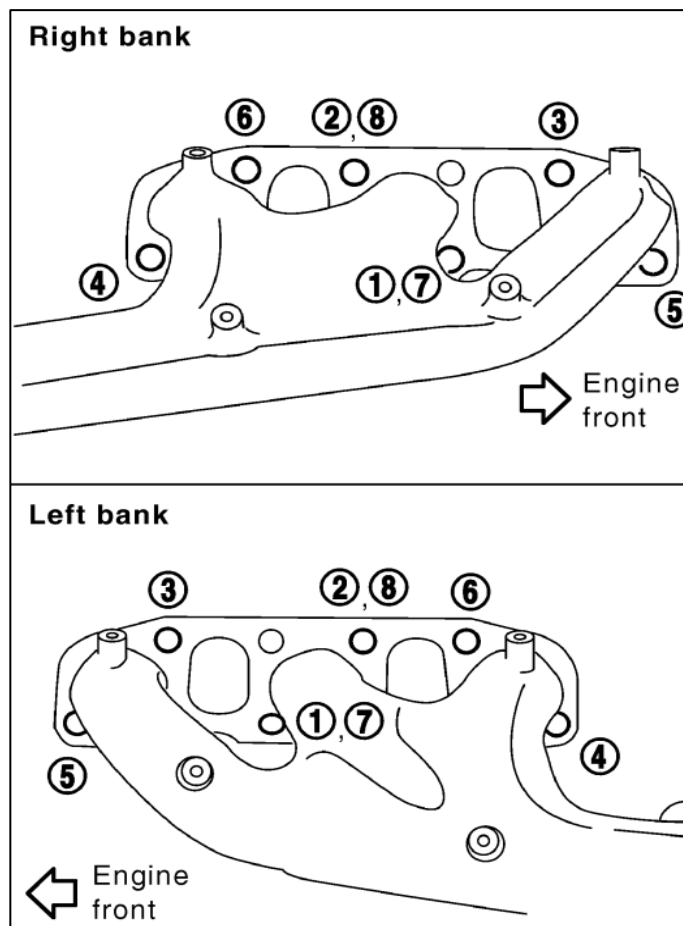

Figure 7
16. Remove the Exhaust Manifold Nuts in reverse order as shown below. This will require removal from both the top and bottom of the vehicle and takes a lot of patience. *Figure 7.*